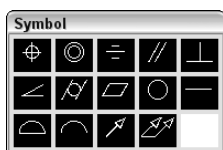

Figure 15-38: Use the Symbol dialog box to choose the symbol for the type of geometry for which you want to specify tolerance.
1. Click the first Sym box to open the Symbol dialog box, shown in Figure 15-38.